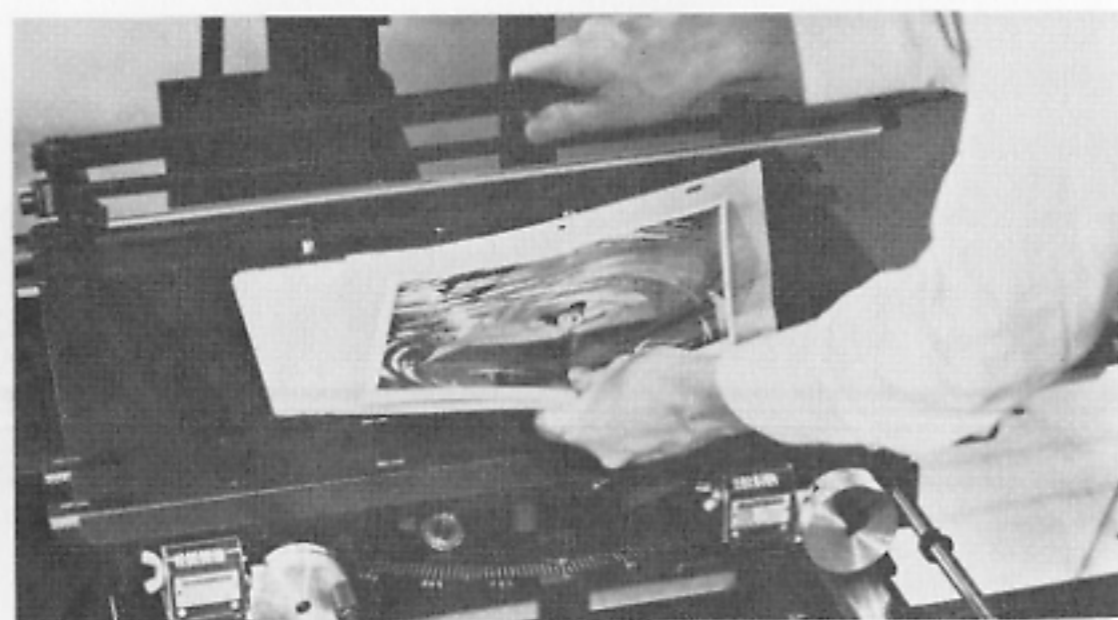

figure 8. Replacing cel to be photographed.
- Fig. 8 Placing Cel on Peg Track
2.1.2 Each peg track in the table top permits the replacement of a photographed cel with one to be photographed, while insuring that there will be no displacement of one cel's position from the previous cel's position. (See Fig. 8)